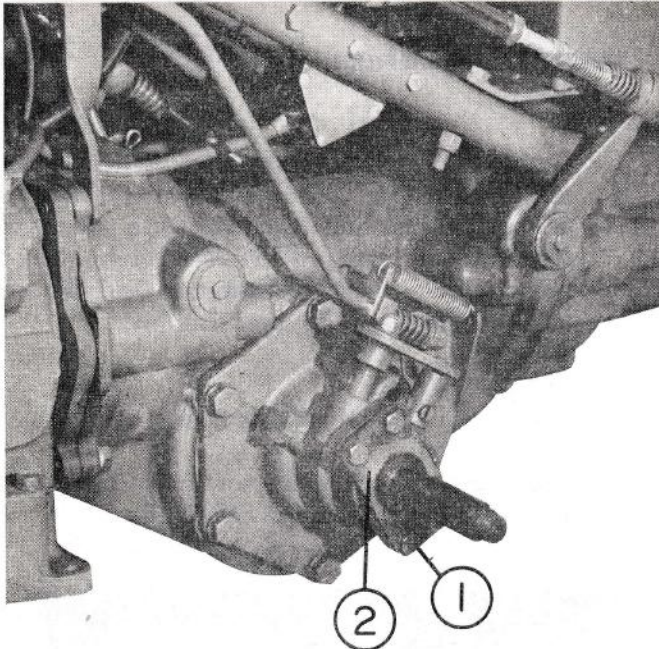

Fig. 4
- Remove the four bolts securing end plate to the axle housing. Do not remove the end plate. See fig. 4.